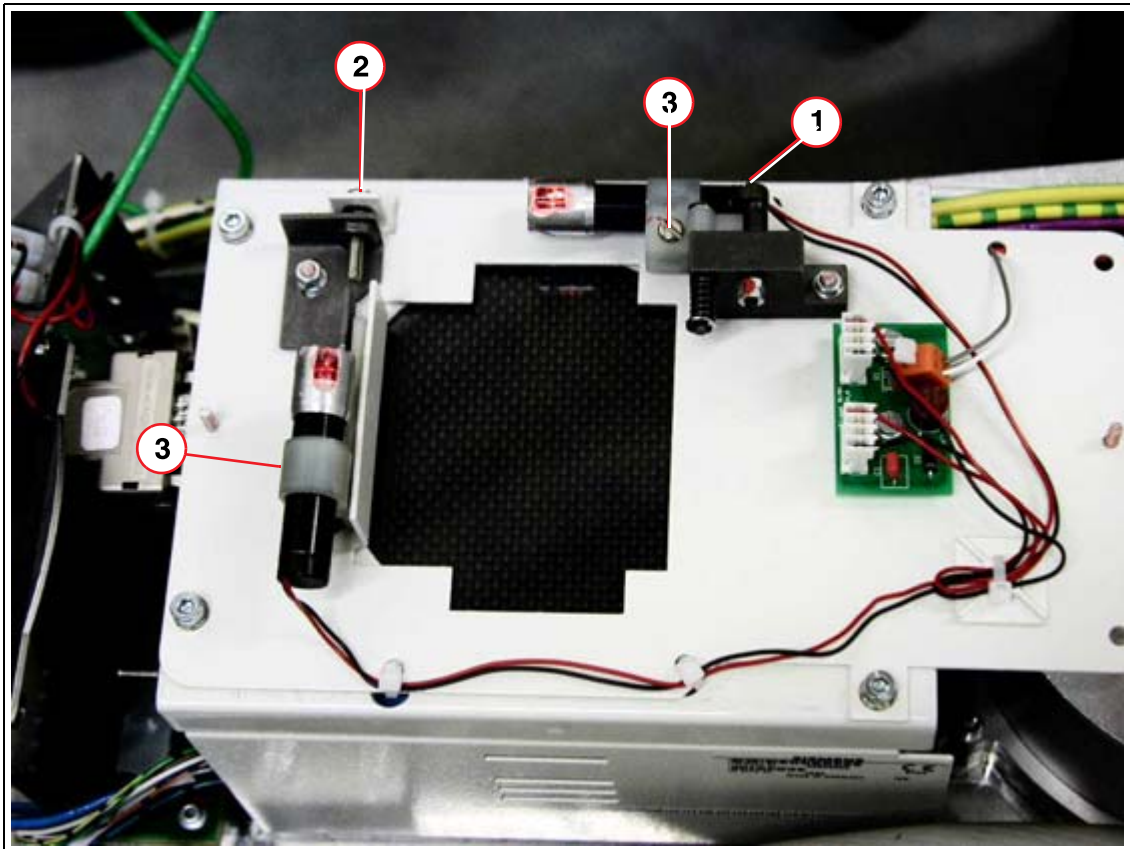

Fig. 1: Laser_unit
- Move the excenter (1 und 2/Fig. 1 / p. 9) to the "zero position".
- Loosen the screws (3/Fig. 1 / p. 9) until the laser diodes can be turned in their holders.
- Retighten the screws (3/Fig. 1 / p. 9).